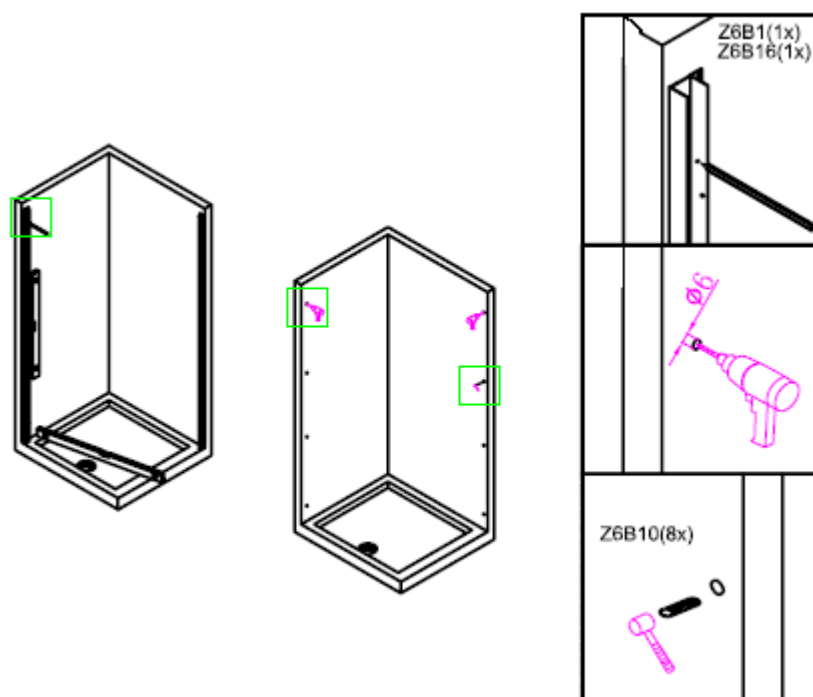

Figure 1
1. Using the spirit level to make sure the frame is horizontal. Lift the wall profile(Z6B1) upto the wall. Check whether the frame is vertical by using a spirit level. Mark the holes to the walls with a pencil. Drill the holes(\varnothing 6mm) into the wall according to the marks made and insert the wall plugs (Z6B10) into the holes, as shown in figure 1.